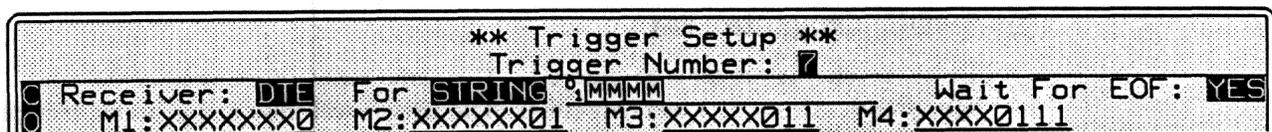

Figure 21-4 Four bit masks can be used as part of the search string.
6. *Bit masks.* Four bit masks can be positioned anywhere in the data-entry string. To enter a bit mask, use **[BIT MASK]** at the desired location in the string. Each time you press **[BIT MASK]**, a new mask field appears below the string-entry field. To move the cursor to the next position in the string-entry field, press **[DONE]**. The mask fields are numbered M1 through M4, to denote the order in which they appear in the string (see Figure 21-4).